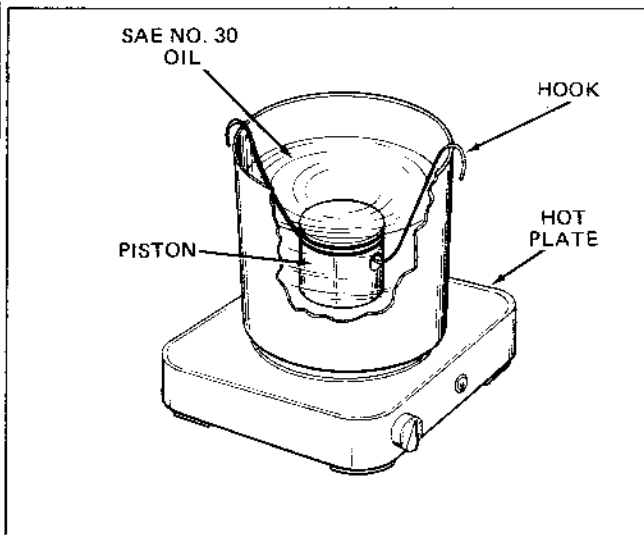

Figure 4-9
- (b) Completely submerge the piston in the oil but DO NOT let the piston touch the bottom of the can. Use a heavy wire (8" in length) and bend a hook in each end to suspend the piston in the oil. See Figure 4-9.
(4) PISTON PIN INSTALLATION